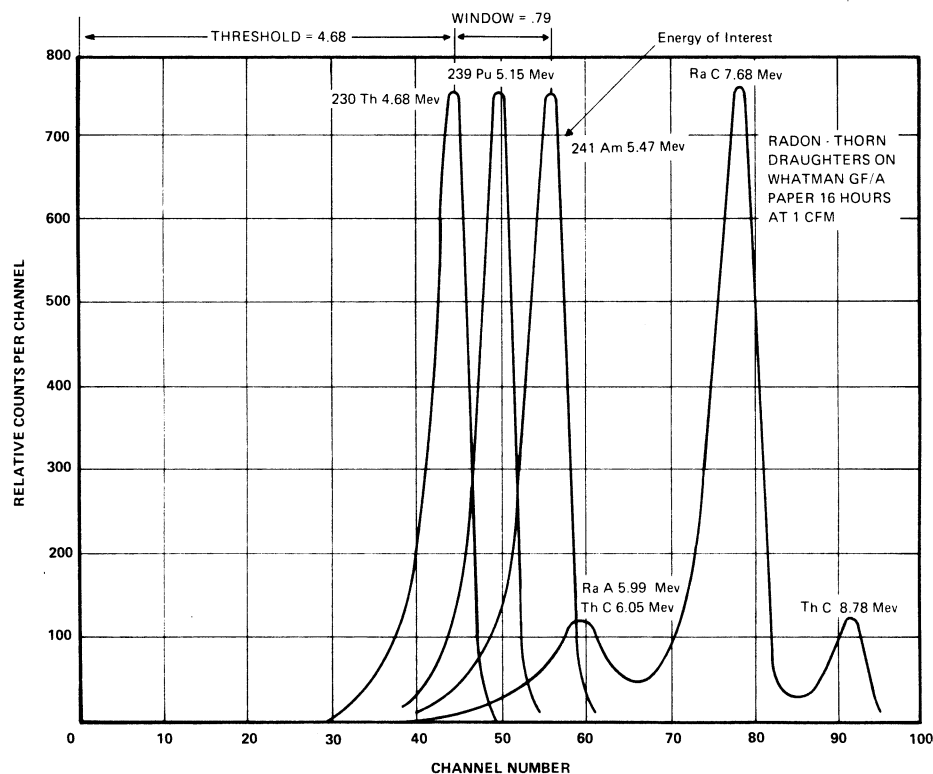

Fig. 5 Typical Pulse Height Spectrums
- 5. The 'THRESHOLD' and 'WINDOW' adjustments of the ALPHA-3 correspond to a channel number on Figure 5. The optimum setting for Pu^{239} , for example, would be a 'THRESHOLD' setting equivalent to channel 4.65 and a 'WINDOW' setting equivalent to 10 channels in width, which would extend to channel 56.5. With these settings, the ALPHA-3 would count at least 90% of the Pu^{239} counts and reject everything outside these limits.
- 6. However, some of the counts from the radon-thoron daughter spectrum do fall within channels 46.5 to 56.5 and will be counted. In Figure 5, these represent approximately 2% of the total radon-thoron activity. The actual percentage of the total radon-thoron activity which is counted depends on the 'THRESHOLD' and 'WINDOW' settings and on the relative abundance of the various daughters.
7. The relative abundance of the RaA, RaC', ThC and ThC' depend, naturally, on their relative abundance in the air and their equilibrium condition. This also depends on how long the sample has been collating. The short half life RaA (3 min.) will reach equilibrium on the paper quite rapidly, while the RaC will take longer due to its longer apparent half life (approx. 30 min.). Likewise, the ThC and ThC1 continue to build up and will not reach equilibrium for many hours because of longer apparent half life (10.6 hours). Figure 5 shows pulse height spectra from various sources taken on a multichannel analyser connected into the ALPHA-3 at the amplifier output. The lower three are taken from plated sources placed in the sample holder of the ALPHA-3. The upper curve is from a filter paper after 25 LPM of air has been pulled for 16 hours.